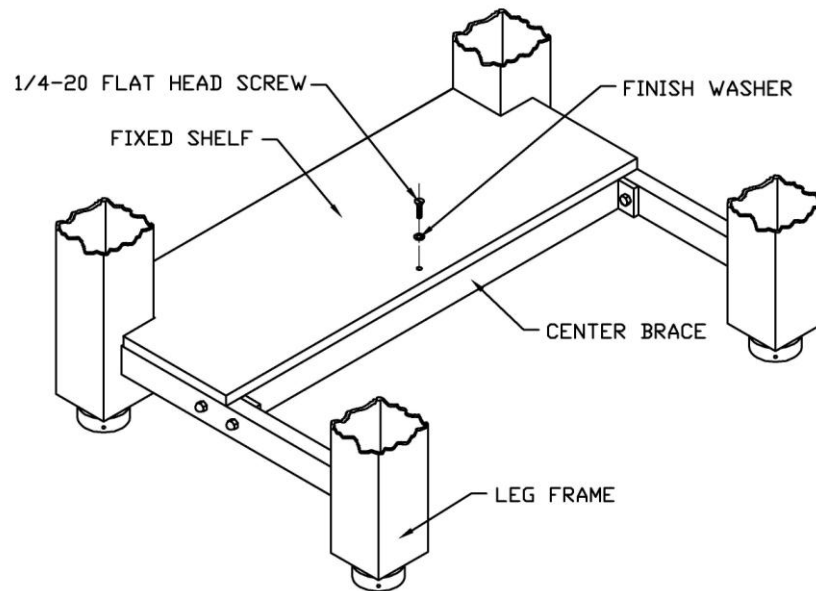

Fig. 4 Optional Fixed Shelf Assembly.
1. Unpack and locate the Fixed Shelf on the bottom Leg Stand brace (Refer to Fig. 4).